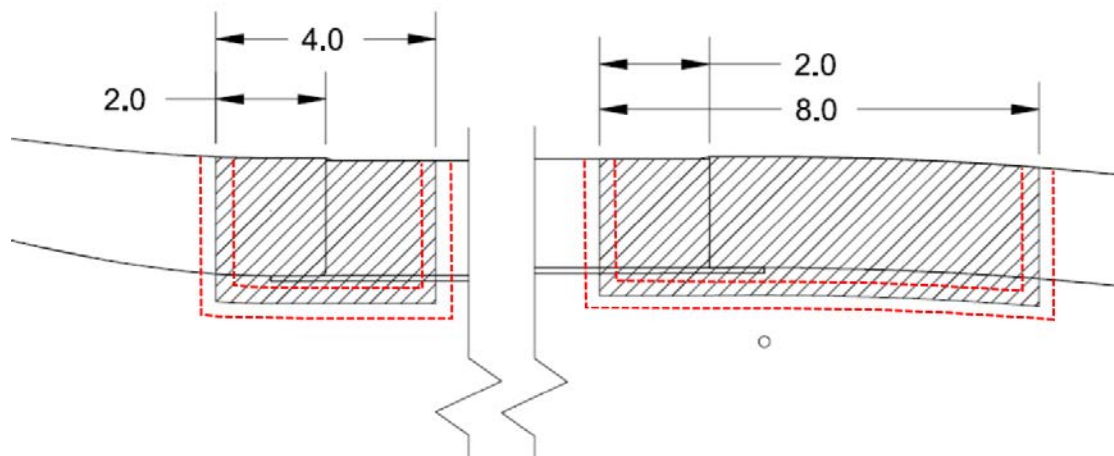

Figure 2 ~ Masking Lines for Edge Sealant
- 3.3.13 Mask around the polyurethane tape for edge sealant: mask back 1/16 – 1/8 inches around the entire perimeter of the polyurethane tape. Mask the inside of the polyurethane tape, set back by 1/16 – 1/8 inches from the edges. Reference Figure 2.